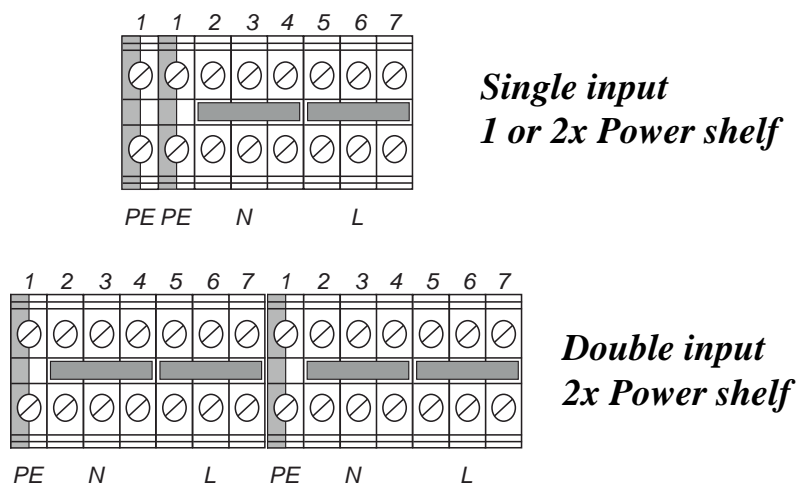

Figure 4-5 AC Input Terminal Block (1-phase or 2-phase)
- 1-phase 110/120VAC or 220/230/240VAC (Figure 4-5)
- 2-phase 240VAC - N.A./CALA (Figure 4-5)